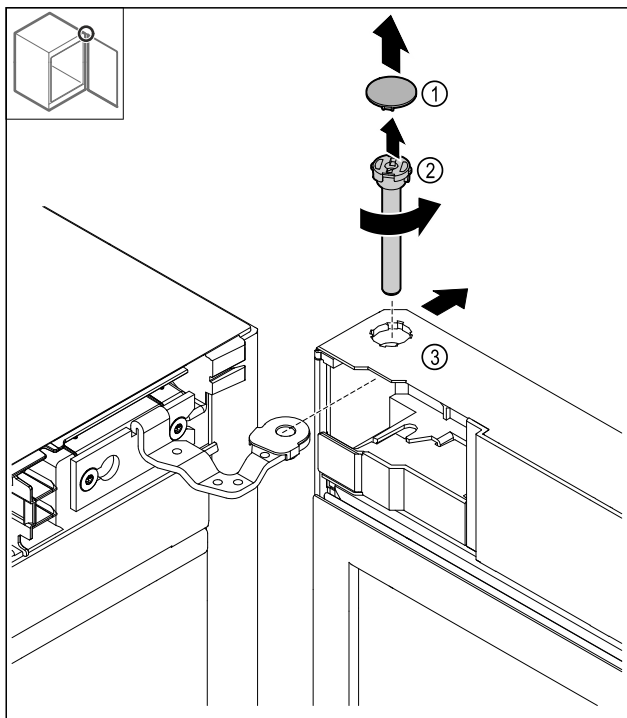

Fig. 20
- Removing the cover Fig. 20 (1).
- Loosen the bolt Fig. 20 (2) anti-clockwise and pull it out.
- Tilt the door Fig. 20 (3) slightly.